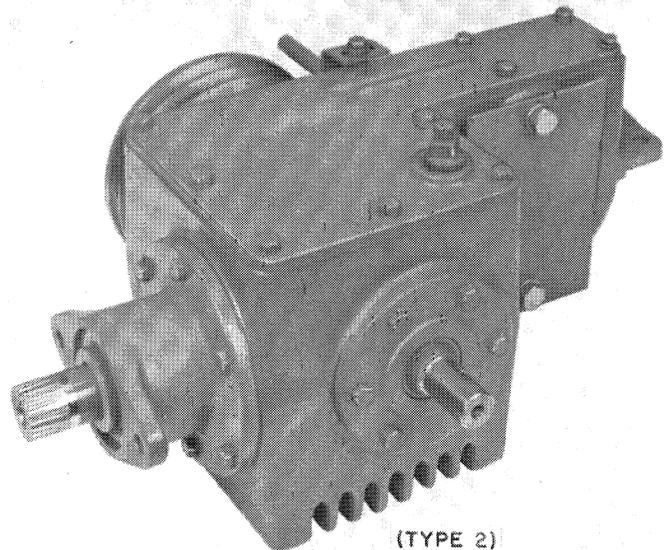

FIGURE 2
**90° GEARBOX (TYPE 2)** — See Figure 2